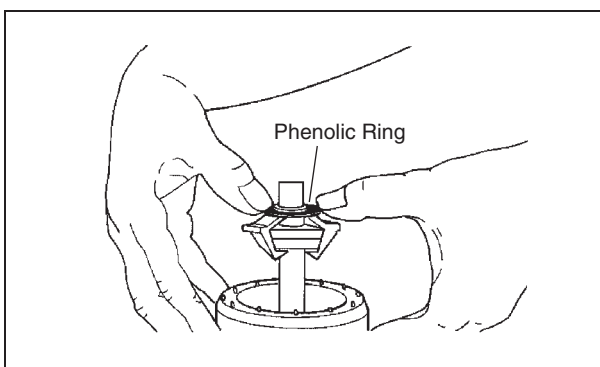

Figure 4.9
11. Turn upper end bell/rotor shaft assembly upside down. Check centrifugal switch for binding by applying thumb pressure to black ring (see Figure 4.9). If switch does not move up and down smoothly: